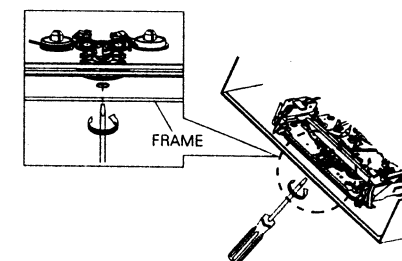

Fig. 1-33
- 3) When Slider S, T are approached in the position of unloading, rotate holder Clutch counterclockwise after inserting screw driver in the hole of frame's bottom in order to wind the unwinded tape. (Refer to Fig. 1-33)